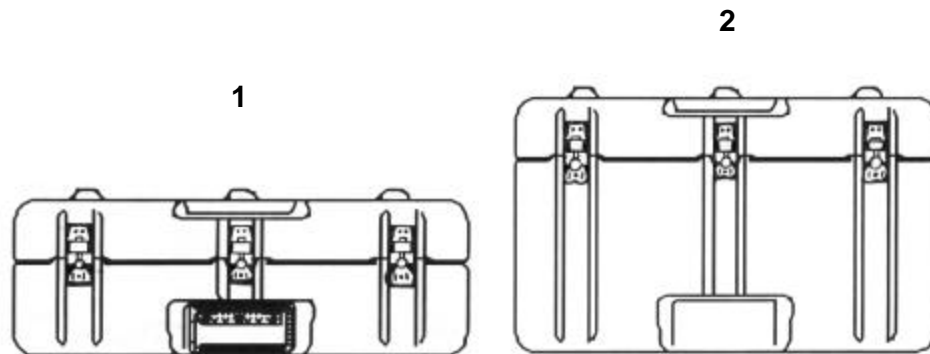

Figure 1-9. Containers
- f. **Containers.** The GLPS is stored and transported in watertight containers (Figure 1-9) made of rugged, synthetic material. Plastic foam inserts protect the equipment during transport. Two sizes of containers are provided with the system. The battery charger and winterization kit containers (1) and the gyroscope and theodolite container (2) are constructed of the same materials and equipped with a pressure relief valve and carrying handles.